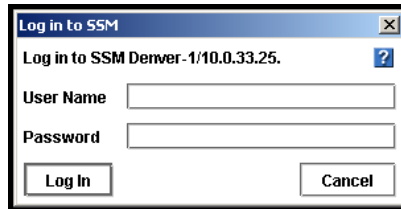

Figure 23. Logging in to an SSM
1. On the Network view, double-click the SSM that you want to log in to. The Log In window opens, shown in Figure 23.